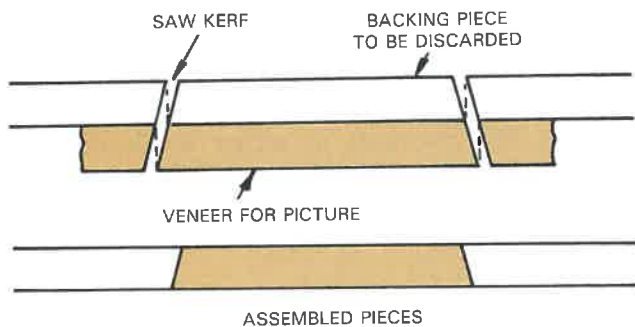

Fig. 20-34. The double-bevel cut method of marquetry.
6. When the cut is done, the new piece of veneer will fit exactly in the place of the discarded background veneer. Fig. 20-34 shows how